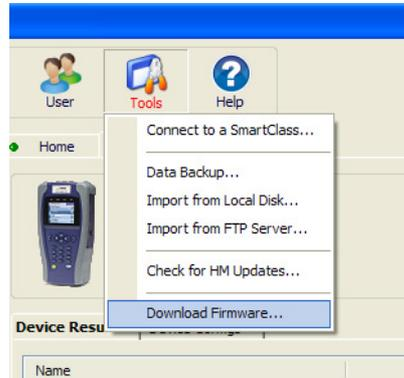

Figure 14 Downloading Firmware
- 2 Click **Tools** and then **Download Firmware**, as shown in Figure 14.